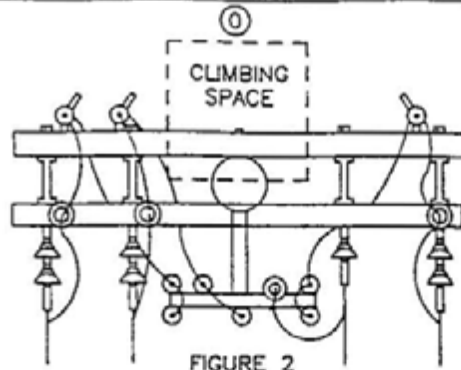

FIGURE 2
SCOPE THIS STANDARD SHOWS TANGENT LINE (FIG 1) AND DEAD-END CONSTRUCTION (FIG 2) FOR 12.47 KV AND BELOW. 3Ø CABLE POLE WITH UPSWEEP BRACKET MOUNTED TERMINALS FOR #2/0 AND SMALLER UG CABLE
- DEAD END CABLE POLE (FIG.2) IS TO BE USED ONLY WHEN NO FURTHER LINE EXTENSION OR NO RECONDUCTORING IS EXPECTED.